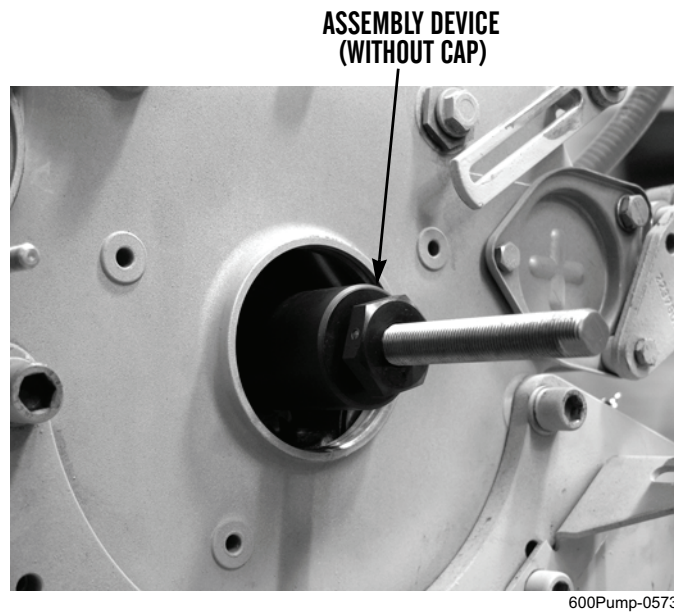

Figure 3. Installing Assembly Device (Without Cap).
1. Install assembly device (without cap) to crankshaft (Figure 3).